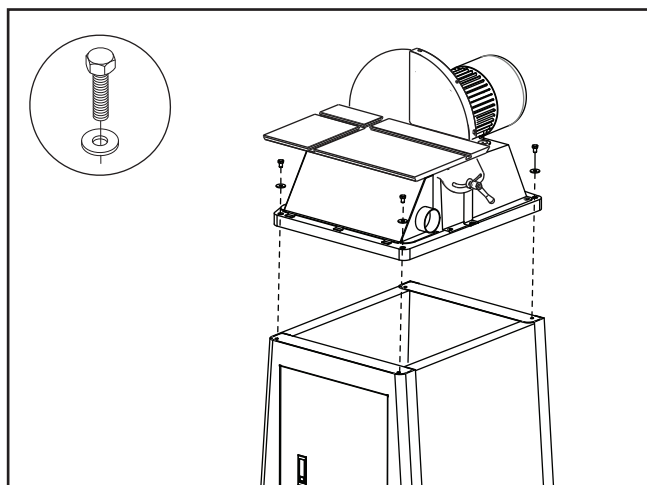

Figure 10. Sander installation.
6. With the help of another person, place the sanding unit onto the top of the cabinet, as shown in **Figure 10**, and fasten it to the cabinet using (4) M8-1.25 x 45 hex bolts and (4) $\frac{5}{16}$ " flat washers.